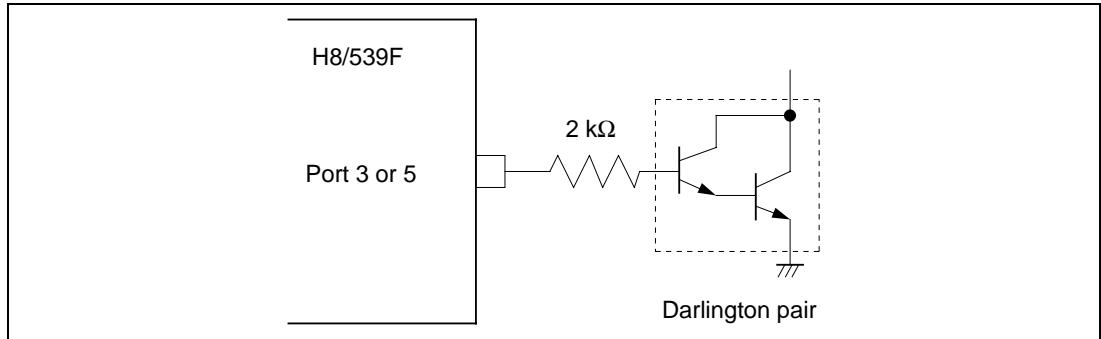

Figure 23-1 Darlington Pair Drive Circuit (Example)
2. When driving a Darlington pair or LED, always insert a current-limiting resistor in the output line, as shown in figures 23-1 and 23-2.